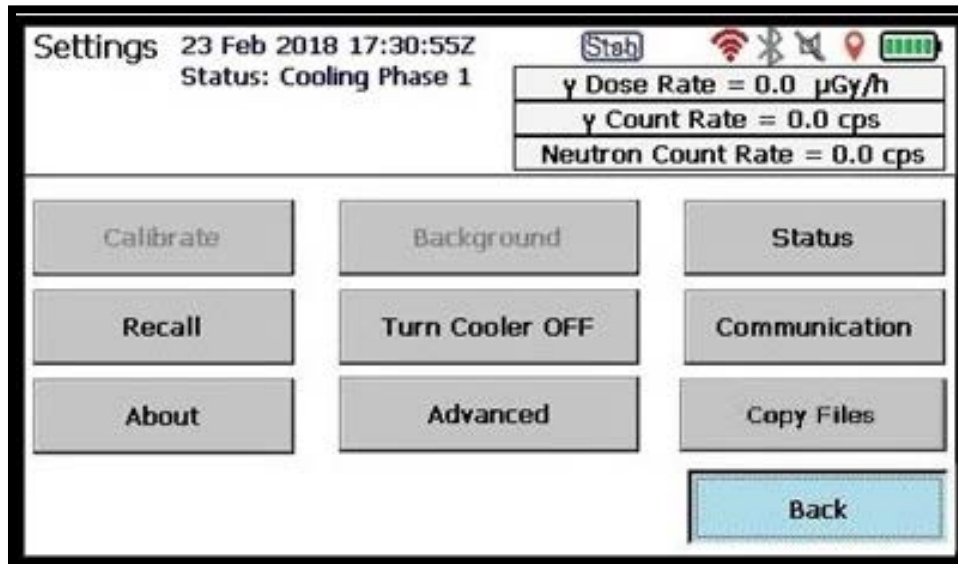

Figure 13. Status: Cooling
2. At this point, the “**The Cooler is turned off!**” error message will no longer be displayed, and the instrument status will say **Status: Cooling Phase 1** (Figure 13).